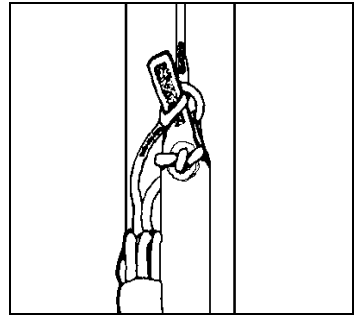

Figure 3.
Step 5.) Insert the stiffened upper portion of the control toggle through the loop and pull the control line back up tightly against the ring guide. (See Figure 3.) "S" fold the remaining break line next to the control toggle and stow it in the Velcro™ loop provided. Mate the Velcro™ on the control toggle with the Velcro™ on the rear riser.